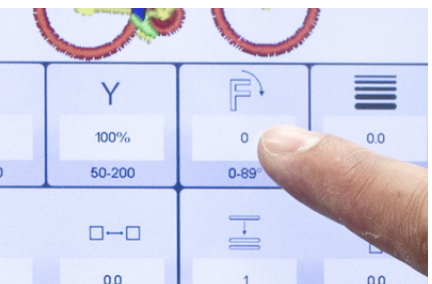

Figure 82
1. Select the third icon on the top row of options represented by an F with an arrow pointing downward. **See Figure 82.**